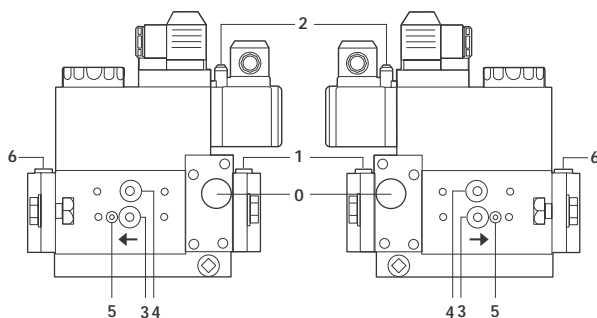
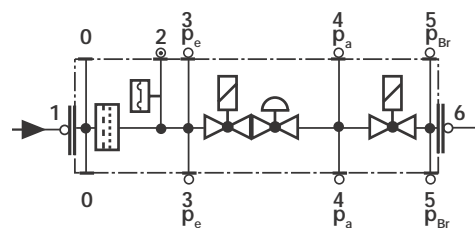

Fig. 32
Fig. 33
- Change the filter if the pressure difference between pressure connection 1 and 3 (Fig. 32-Fig. 33) is  $\Delta p > 10$  mbar.
- Change the filter if the pressure difference between pressure connection 1 and 3 (Fig. 32-Fig. 33) is twice as high compared to the last check.